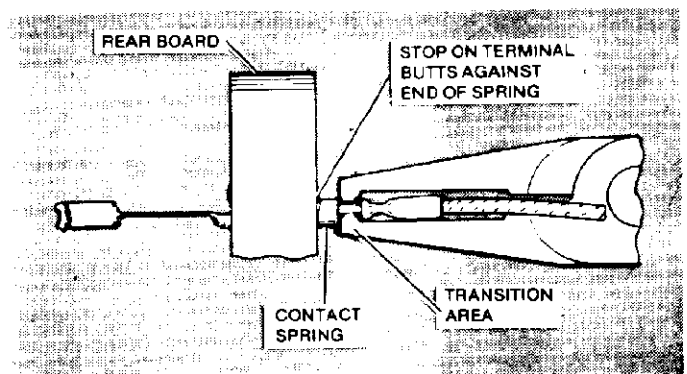

Figure 3
- (e) Terminal stop butts against end of spring when terminal is properly inserted to maximum depth. See Figure 3.